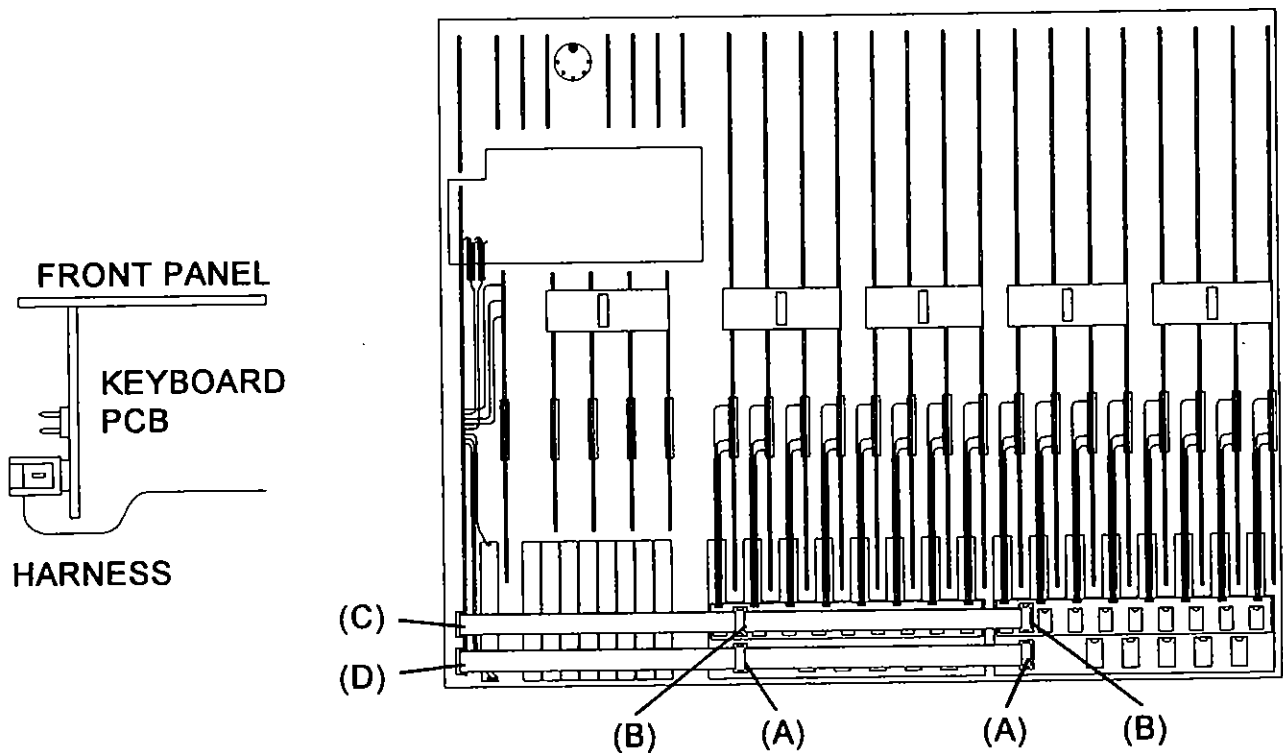

Fig. 17.
2. Unpack the VCA Slave Harnesses from the kit. Plug the harnesses into the connectors labelled CON1 (A) on the VCA Slave PCBs and onto the connectors (B) on the Channel VCA PCBs. Connect the ends of the harnesses to CON4 (C) and CON5 (D) on the Keyboard PCB as shown. *see Fig. 17.*